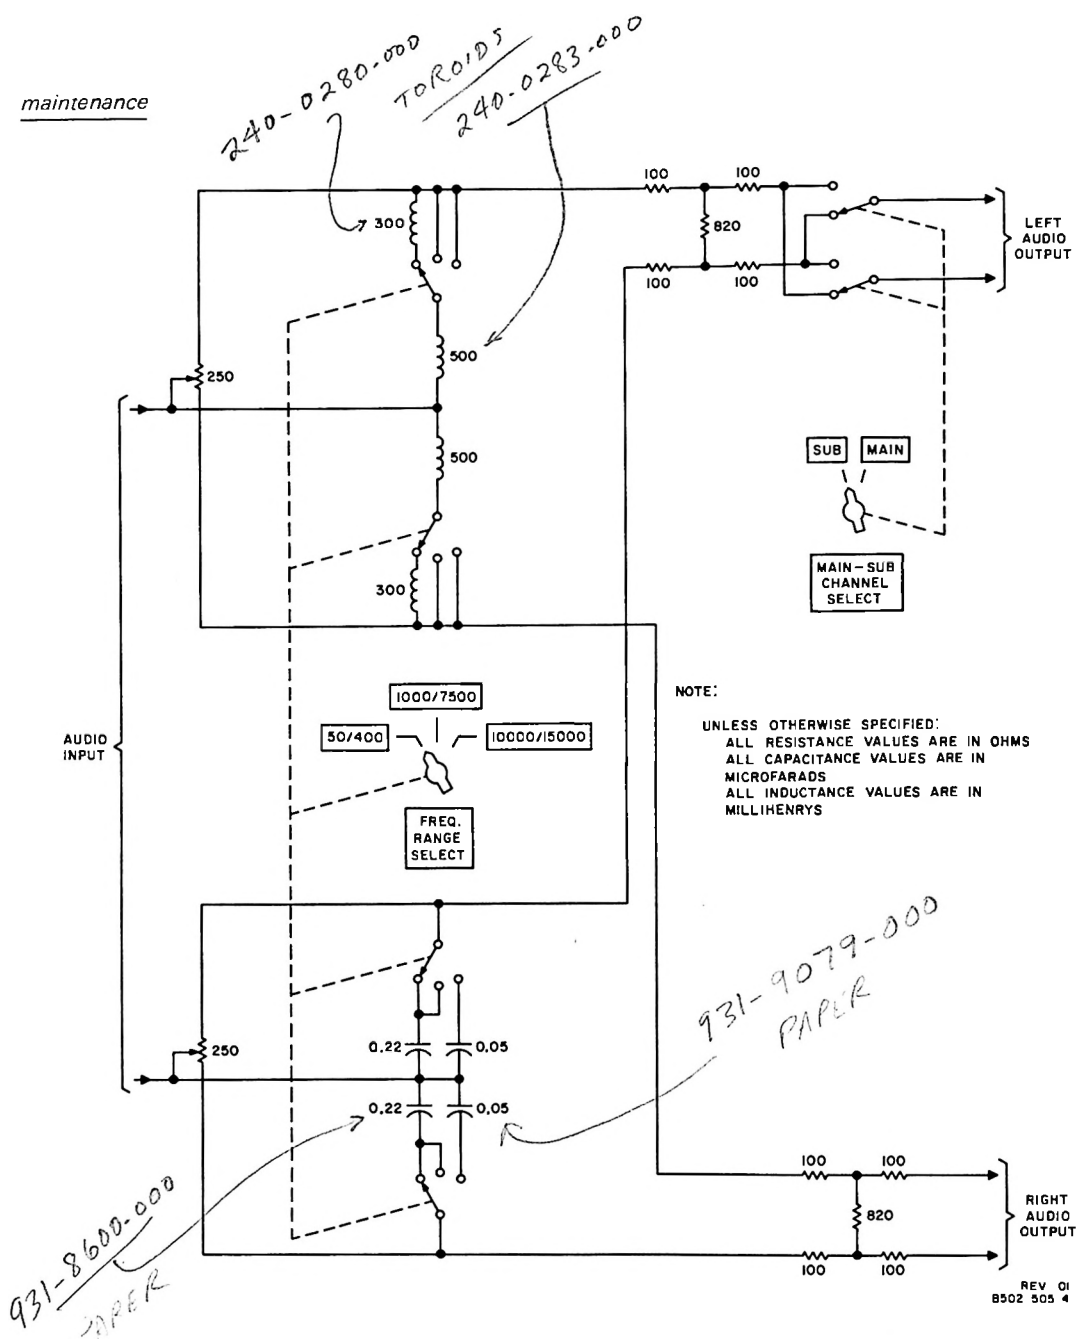

Figure 5-7. Crosstalk Test Circuit, Schematic Diagram.
- a. Connect the equipment as shown in figure 5-6. The crosstalk test circuit shown on figure 5-7 must be fabricated for this test.